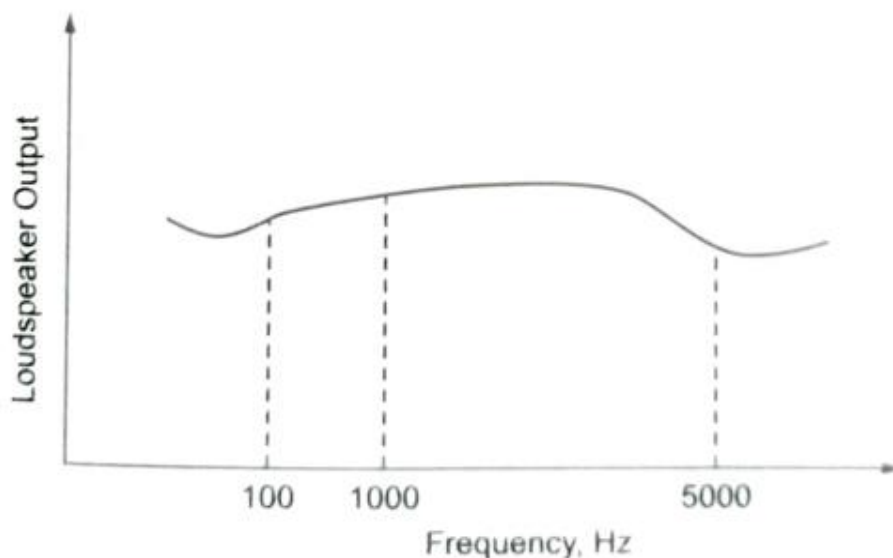

Fig 6.2: *Frequency Response of Moving Coil Loudspeaker*
- 3) It gives a nearly flat frequency response in the 200 Hz to 5000 Hz range as shown in Fig 6.2.